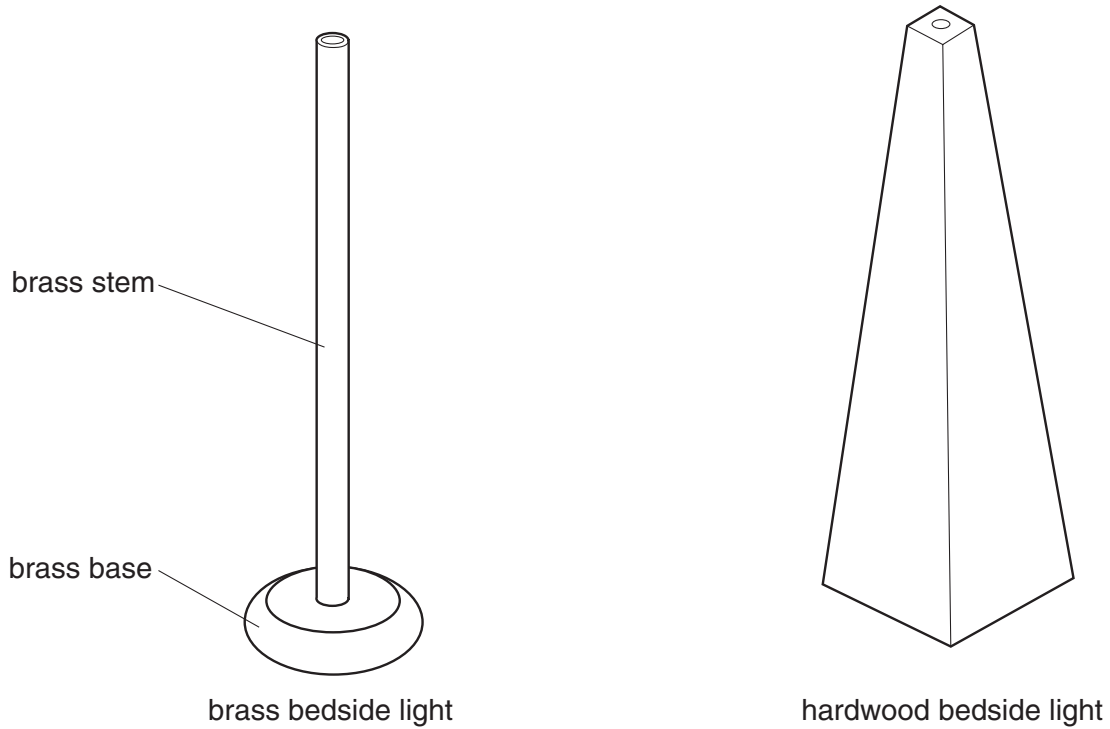

Fig. 2
- 2 This question is based on the theme of Domestic Bedside Lighting. Fig. 2 shows two different industrially manufactured bedside lights. The lampshades and fittings have been removed.